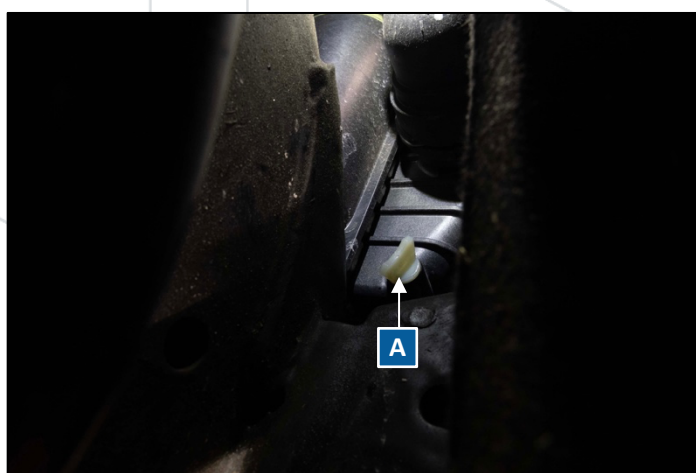

Figure 2: Passenger Side Petcock
2. **Drain coolant from passenger side petcock (labeled as A Figure 2).**